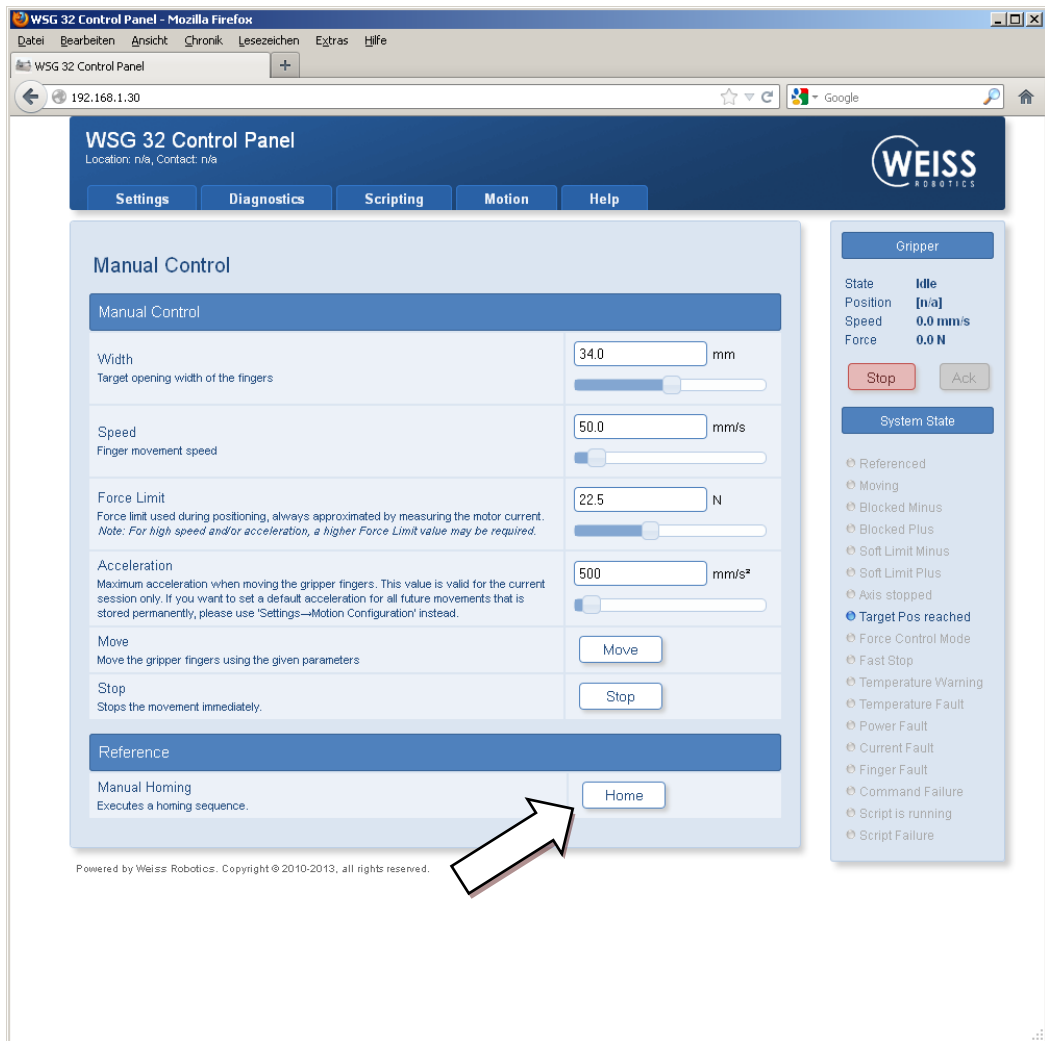

Figure 19: „Manual Control“ configuration page
6. From the menu, select the „Motion“ → “Manual Control“ option and click on the „Home“ button (Figure 19). The module will now zero itself.